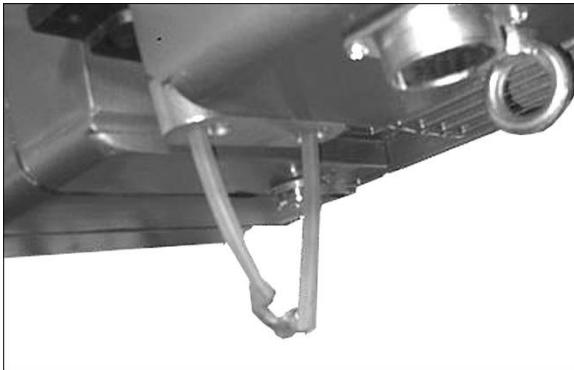

Figure 13-2
- Insert chain puller through hoist as shown in Figure 13-2.
- On the slack end of the chain, remove the chain stop, spring, and limit block (Figure 13-2). Keep these handy for later re-installing.